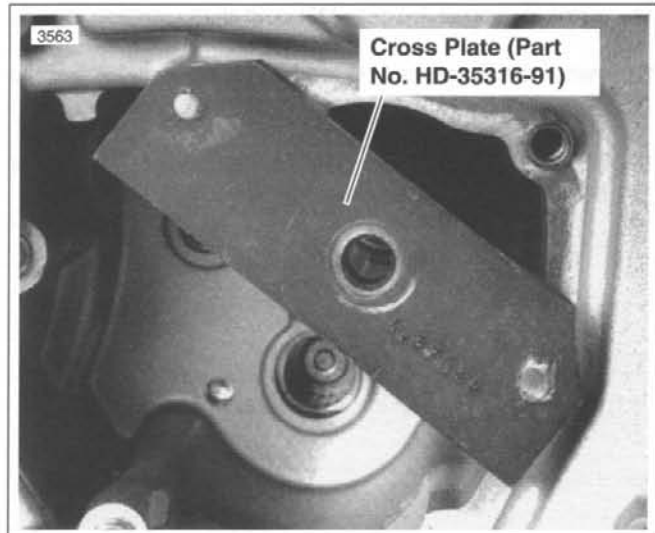

Figure 6-52. Support Bracket Mounting
3. See Figure 6-52. Use MAIN DRIVE GEAR REMOVER AND INSTALLER (Part No. HD-35316-A) with CROSS PLATE (Part No. HD-35316-91). Take support bracket and insert pins, at one side, into holes which are now exposed under access cover.